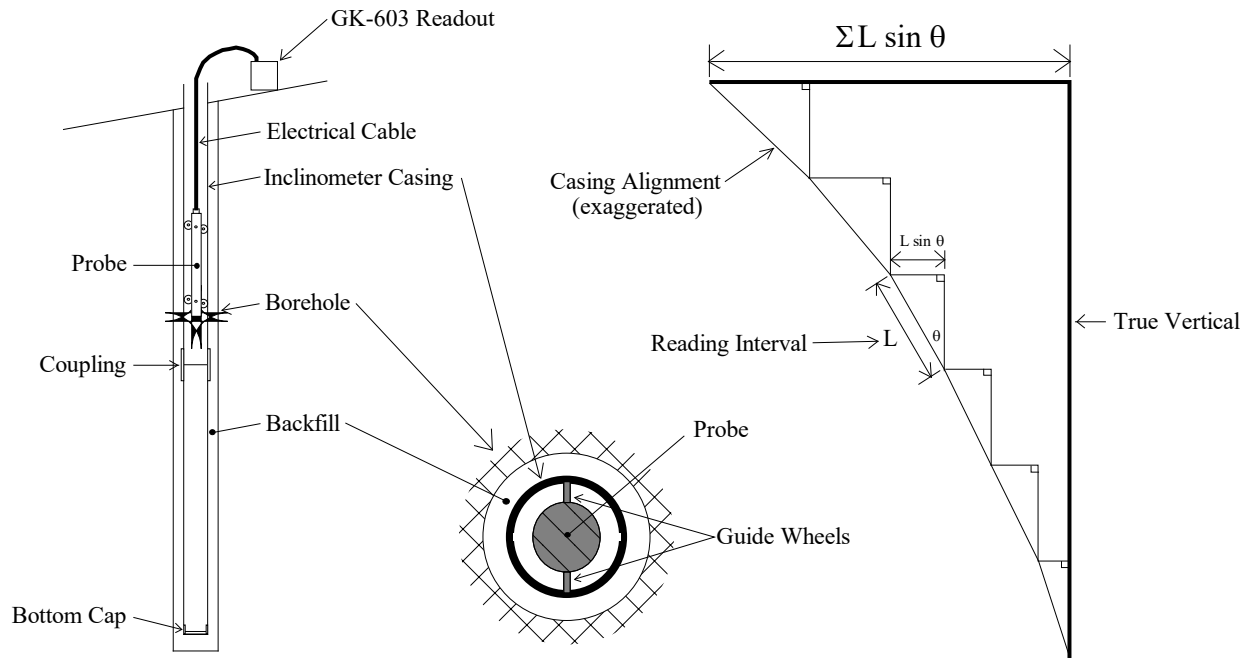

Figure 117 - Incliner Survey Description
Subsequent surveys of the inclinometer casing, when compared with the original survey, will reveal any changes of inclination of the casing and locations at which these changes are taking place. Analysis of the change of inclination is best performed by computing the horizontal offset of the upper wheels relative to the lower wheels which has produced the tilting (θ) over the reading interval (L) of the survey (usually the wheel base of the probe, two feet for English systems, half a meter for Metric). At each position of the inclinometer, the two readings taken on each axis (A+, A- and B+, B-) are subtracted from each other leaving a measure of $\text{sine}\theta$. This value is then multiplied by the reading interval (L) and the appropriate factor to output horizontal deflection in engineering units (inches for English, centimeters, or millimeters for Metric) (see Figure 117).